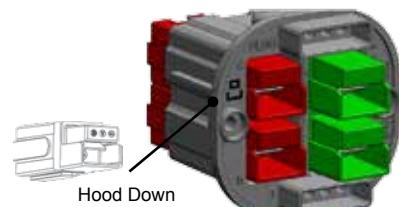

Figure 4
- a. Orient Powerpole® housing with hood down. (See figure 4)
- a. Orient the Powerpole® housing with hood down. (See figure 4)